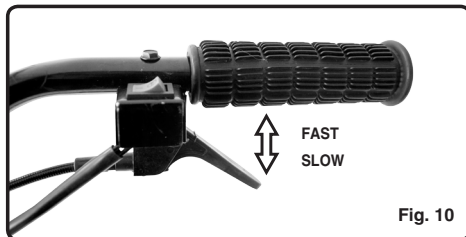

Fig. 10
4. Hold the throttle trigger fully depressed in fast position. (See Figure 10)
To increase the engine speed, lift up on the throttle trigger. (See Figure 10)
1. Release the throttle trigger and allow the engine to idle for a few moments. (See Figure 10)